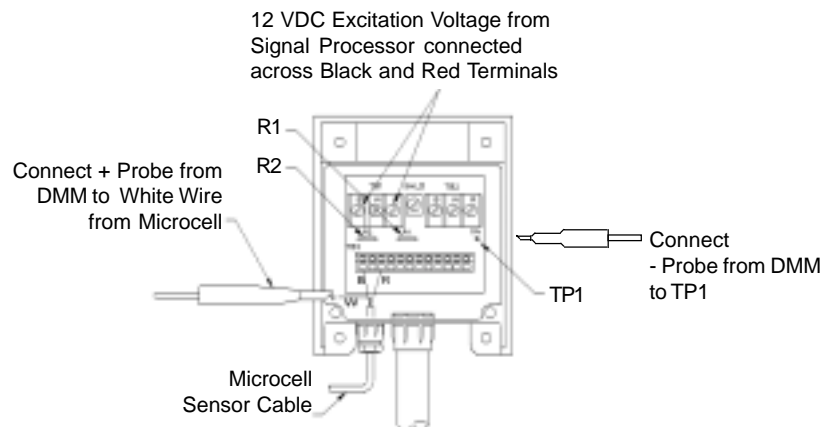

Figure C-1. Using DMM to Monitor Voltage Output
1. See Figure C-1. Connect the red wire from the Microcell cable to the R terminal on terminal block TB3 in the junction box. Connect the black wire to the B terminal on TB3.